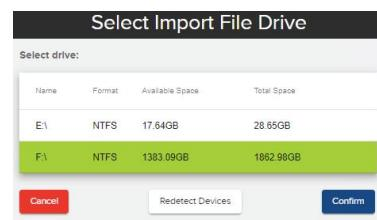

Figure 65: Selecting External Drive
4. View available external drives (NTFS or exFAT format). Consider available space on any drives present and the estimated size of the export (see Figure 65). Select a drive to which to export.